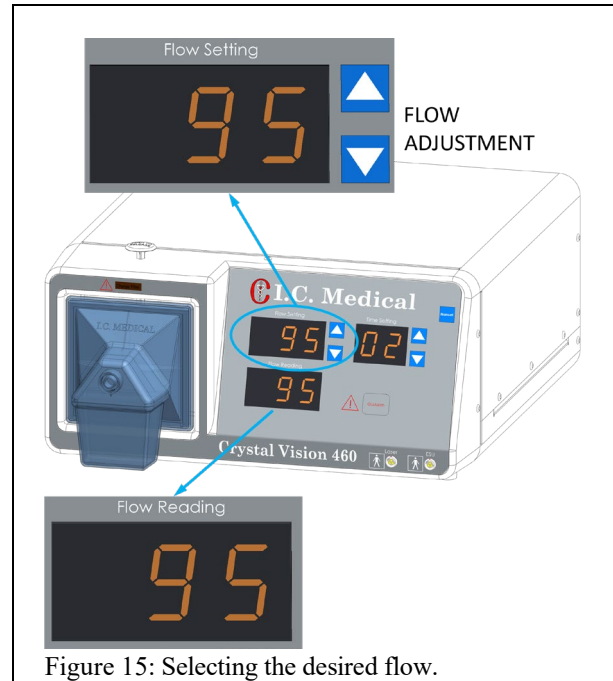

Figure 15: Selecting the desired flow.
6. FLOW SETTING control buttons (Figure 15) sets the maximum flow that is desired by the surgeon. This value is indicated on the FLOW SETTING display.
7. FLOW READING (Figure 15) is registering the amount of gas and vapor that is actually flowing at the present time. This value should be zero, when the vacuum pump is not turned on.